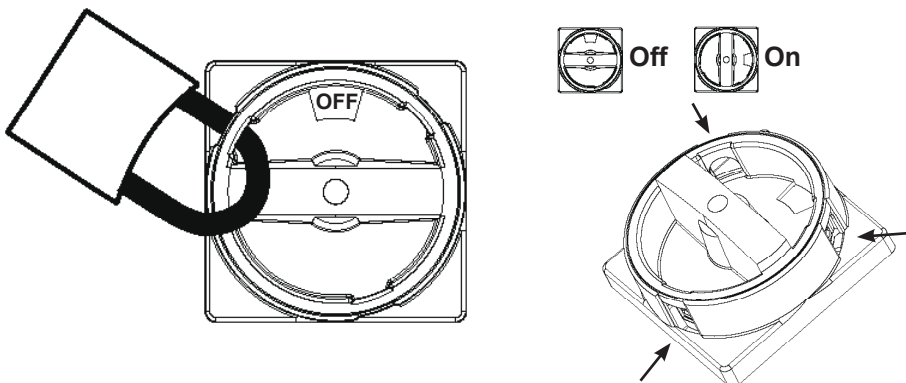

Figure 7: Lockable DC Disconnect
(1) Inverter Enclosure - This section is sealed at the factory and there are no user-serviceable parts inside. All wiring to install the inverter is done in the wiring compartment.
(2) LED Indicators - The three LED indicators show errors or status as described in Section 5.
(3) LCD - The 20 character, 4 line LCD shows important messages regarding the inverter status and performance.
(4) Display Control Keys - These 4 keys allow the user to access status and performance information and to change settings via the display.
(5) Mounting Bracket - The inverter ships with a mounting bracket that allows for easy installation of the inverter to a wall.
(6) Lockable DC Disconnect - The DC disconnect is lockable and allows DC power to be disconnected from the inverter. See figure 7 below.
(7) Wiring Box Cover - This is the cover for the wiring compartment. The removal procedure is shown on page 29. Please note the DC disconnect must be in the OFF position before this cover can be removed.
(8) Wiring Box - This is the compartment where all the wiring for the inverter inputs and outputs plus the RS-485 communication is done.
(9) Conduit Opening - There are six - 1" conduit openings and two - 1/2" conduit openings. Each conduit opening comes fitted with a conduit plug that should be removed before installing conduit fittings. Conduit fittings need to be water tight with a NEMA 4, 4X, 6, or 6X rating.